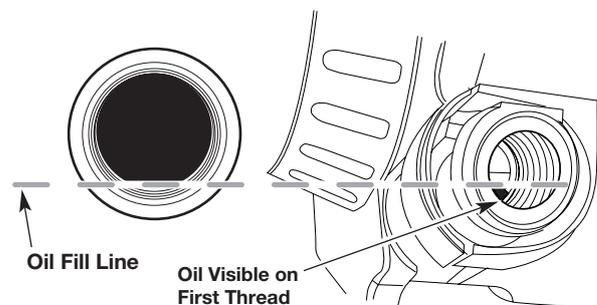

Fig. 10
5. Look into the oil fill hole; use a flashlight if necessary. Add oil to the oil fill hole until the oil level is visible on the first thread of the oil reservoir (Fig.10). If the oil level is too low, add oil to the oil fill hole until the oil level touches the bottom thread of the oil fill hole.